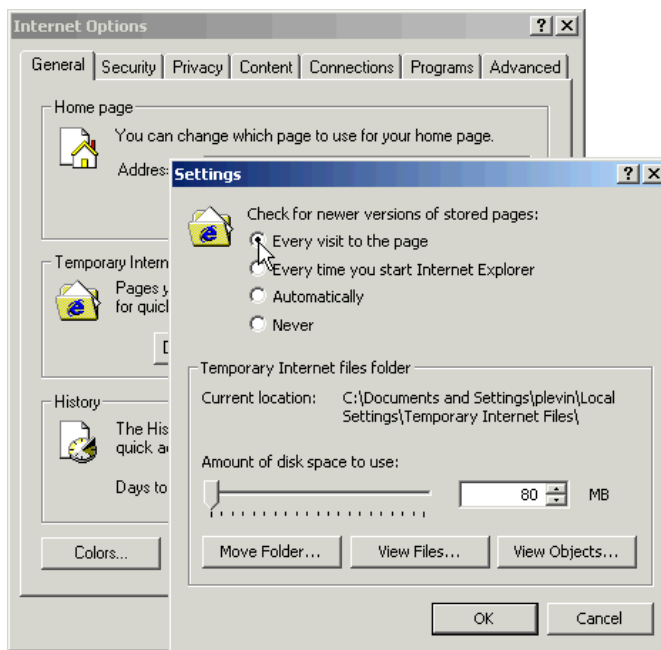

FIGURE 1 Configuring Internet Explorer
3. Choose **Every visit to the page** under “Check for newer versions of stored pages:” as shown in Figure 1 on page 6.